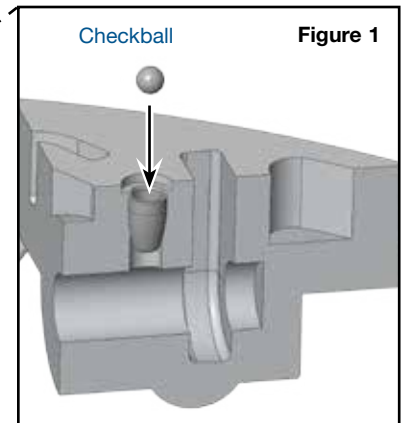

Figure 1
- b. Drop one Sonnax 1/8" aluminum checkball into OE orificed cup plug. Drive checkball into cup plug with appropriately sized punch. Stake cup plug to prevent checkball displacement (**Figure 1**).